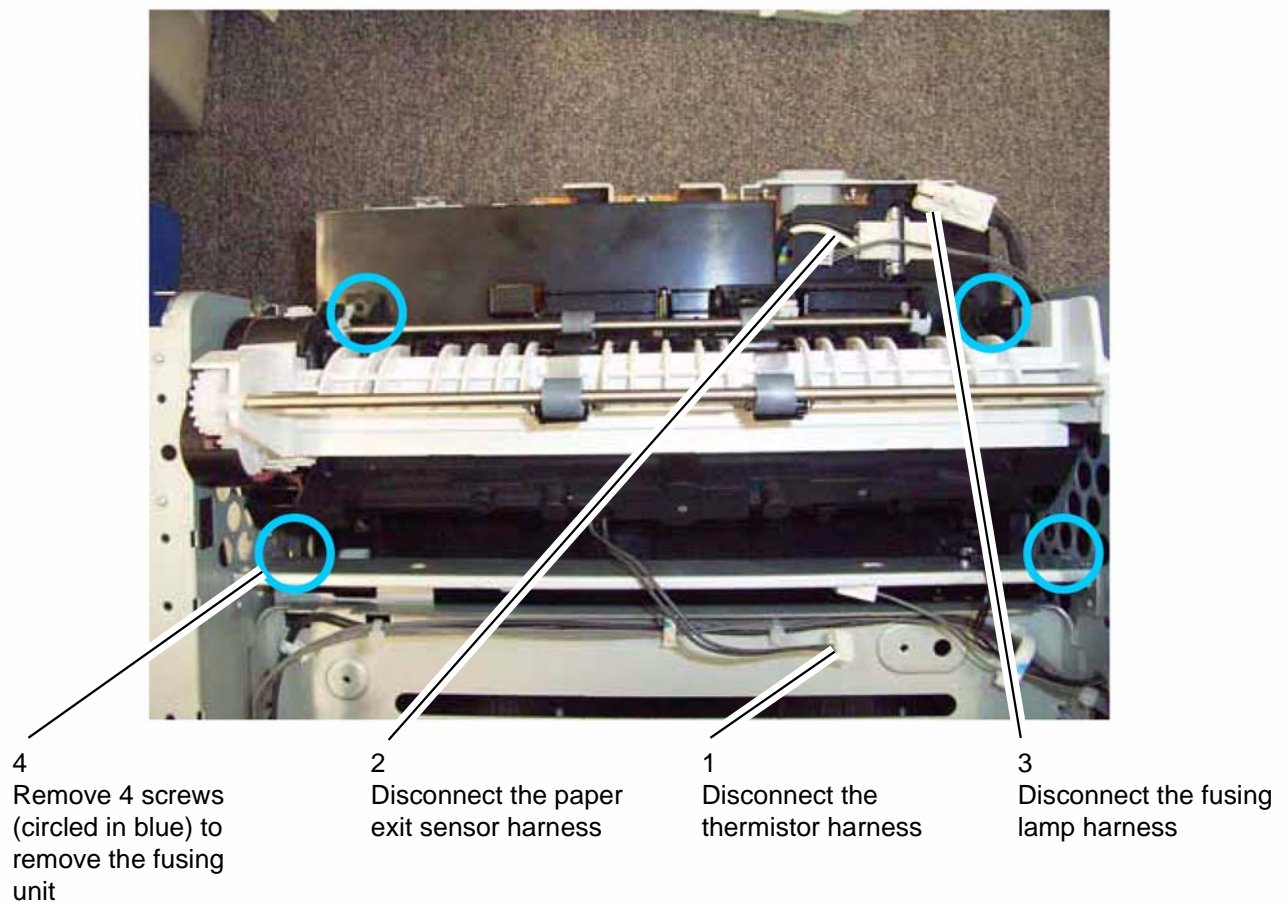

Figure 1
- Remove the fusing unit, Figure 1.